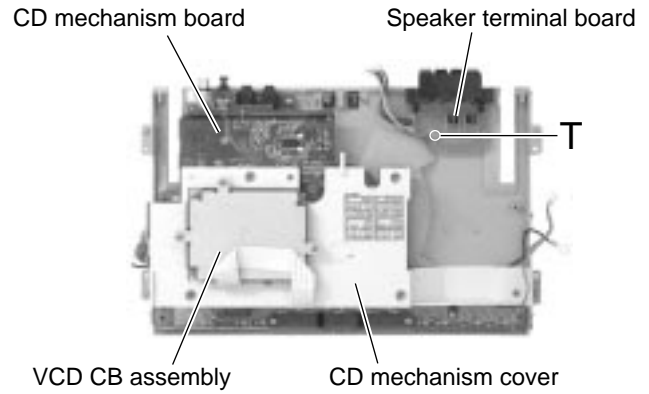

Fig.29
■ Removing the speaker terminal board (See Fig.29)